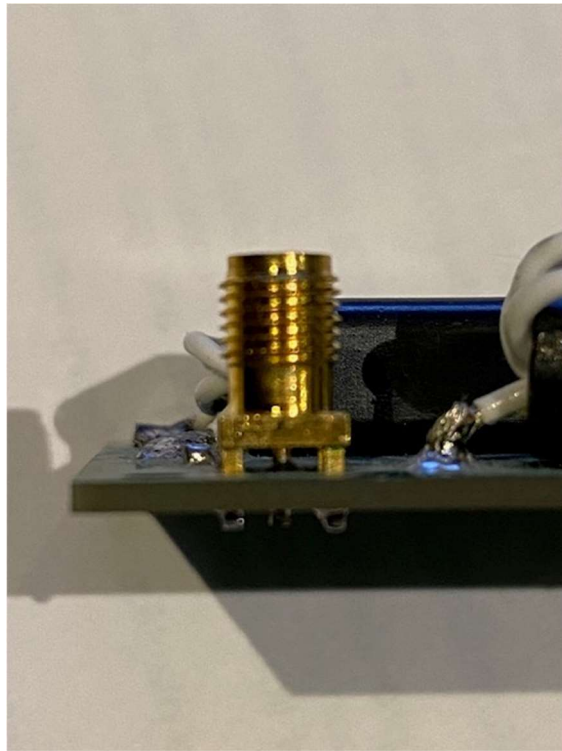

Figure 24. Mounting The SMA Connector.
10. Finally, Place J1, J2, J3, J4 connectors. Lift the SMA connectors above the board just slightly prior to soldering so that it does not short the center conductor to the connector shell (see Figure 24).